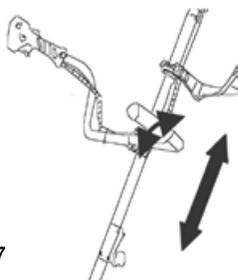

FIG. 17
1. Loosen the bolts on the bracket (13) and adjust the position and angle (Fig. 17).